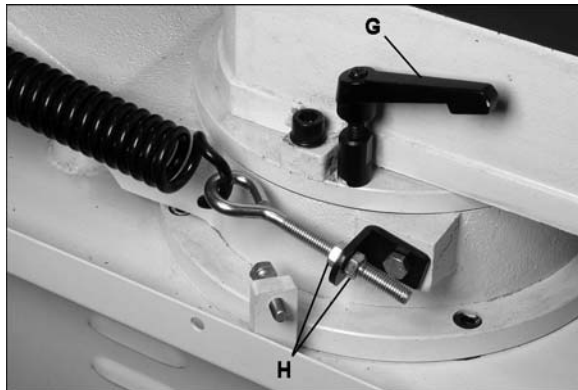

Figure 17
4. The coolant supply hose (B, Figure 17) should connect to the two valves on the blade guide assemblies.
1. Loosen handle (G, Figure 17).
5. If adjustment is needed, loosen one nut and tighten the other (H, Figure 17) on the eye bolt, until scale indicates 5 to 6 kg.